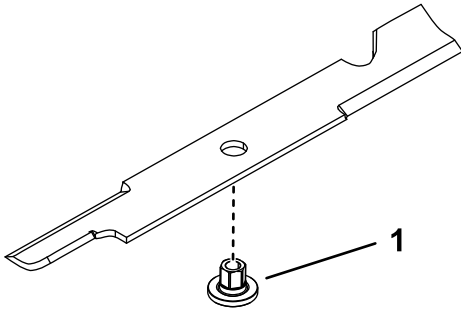

Figure 8
1. Install the bushing through the blade with the bushing flange on the bottom (grass) side of the blade (Figure 8).